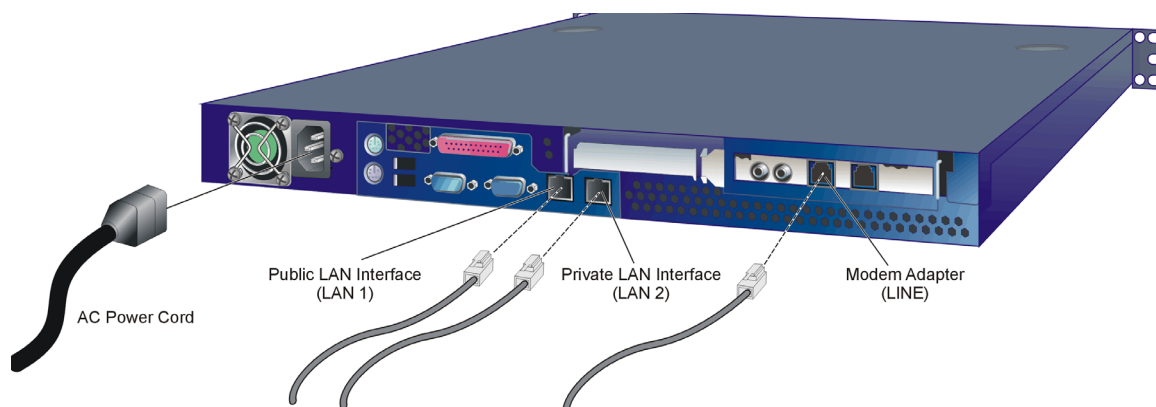

Figure 2-9 Management Server Connections
- a. Connect one end of the Ethernet patch cable (supplied with the management server) to the right RJ-45 adapter (**LAN 2**) at the rear of the server (Figure 2-9).
- a. Connect one end of a customer-supplied Ethernet patch cable to the left RJ-45 adapter (**LAN 1**) at the rear of the server (Figure 2-9).
8. Connect the 20-foot phone cord to the left RJ-11 adapter (**LINE**) at the rear of the server and to a facility telephone connection (Figure 2-9).
9. Connect the AC power cord to the server and to a facility power source or rack power strip that provides single-phase, 90 to 264 VAC current (Figure 2-9).